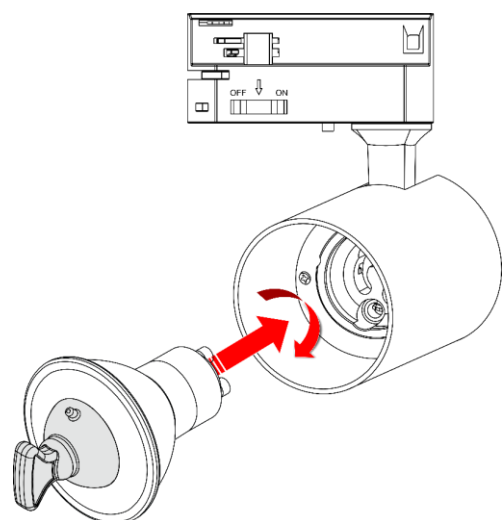

Fig. 05
- 02) Insert the light bulb into the **lamp holder (04)** and twist it clockwise until it fits into place (see Fig. 05).